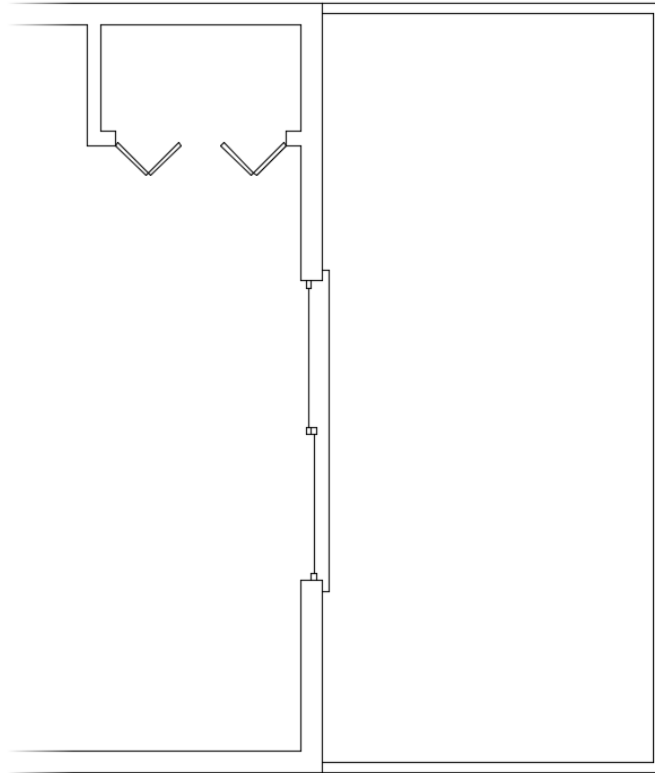

FIGURE 5.14: The perimeter of the front deck
7. Click the top-right corner of the cabin to complete the perimeter of the deck, and then press ↵ to end the Polyline (PLINE) command. Your drawing should look like Figure 5.14.